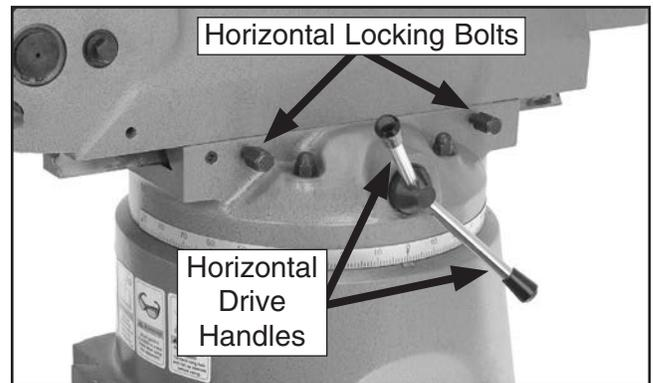

Figure 23. Ram horizontal locking bolts and drive handles.
2. Use a 19mm wrench to loosen the two horizontal locking bolts shown in **Figure 23**.
3. Rotate the horizontal drive handles (**Figure 23**) in the direction of desired ram movement.